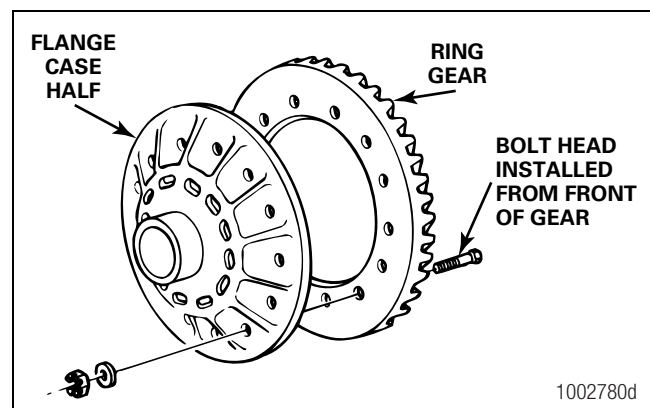

Figure 5.19
5. Install the bolts, nuts and washers, if equipped, that hold the ring gear to the flange case half. Install the bolts from the front side of the gear. The bolt threads must be installed from the inside face of the ring gear and the nuts tightened from the back of the ring gear. Figure 5.19.